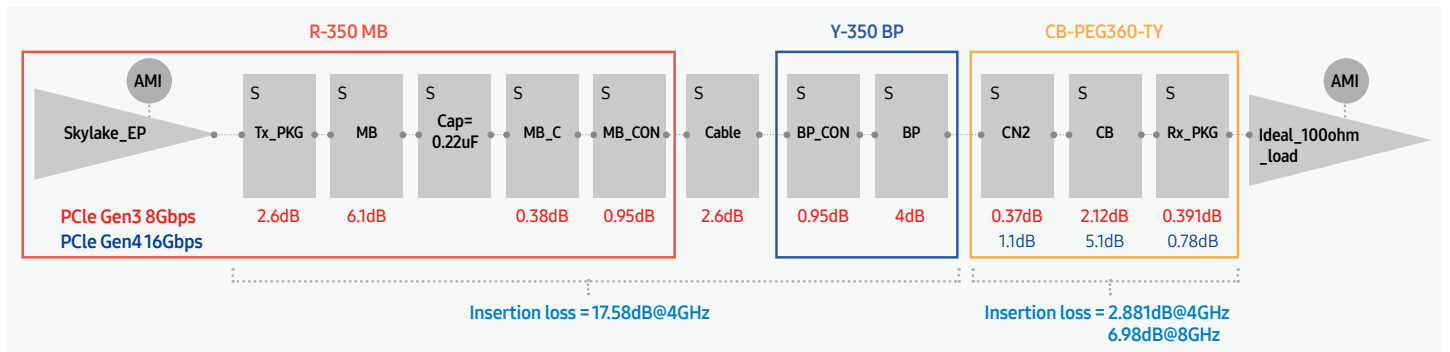

Figure 22: Channel Topology for SI Simulation
Figure 22 illustrates the signal integrity (SI) thermal simulation channel topology. It is identical to the real Mission Peak server system configuration. Since the PCIe Switch improves signal integrity characteristics, the PCIe Switch model was not included to make a worst case condition for SI simulation.